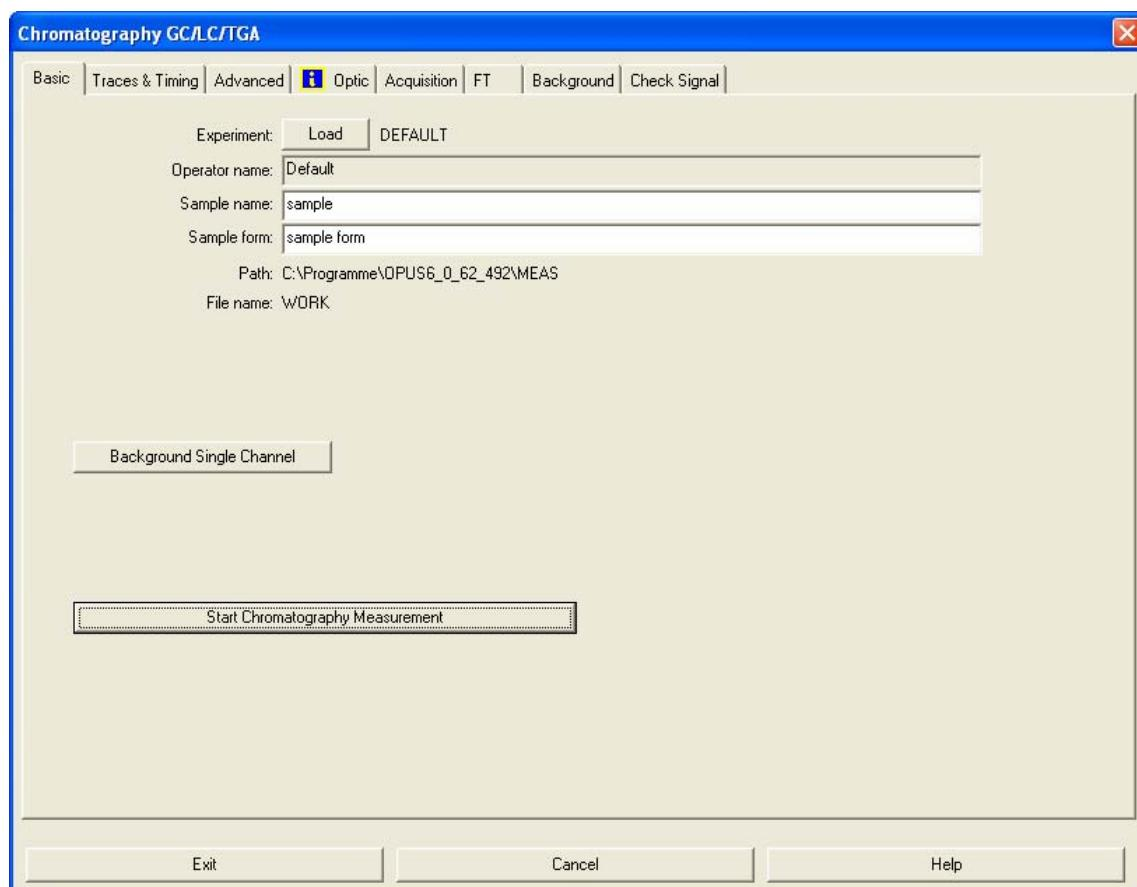

Fig. 4: Chromatography dialog window – Basic page
- Select in the OPUS “Measure” menu the “Chromatography” function. Thereupon, the “Chromatography GC/LC/TGA” dialog window appears. (See fig.4.)